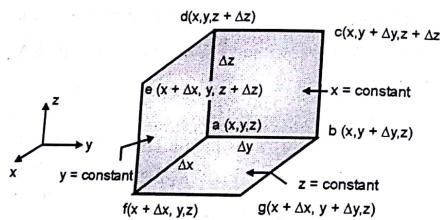

Fig. 6.3.5 : Infinitesimal rectangular paths
- Let us have three infinitesimal rectangular paths in planes parallel to the three mutually orthogonal planes of the Cartesian coordinate system, as shown in Fig. 6.3.5.